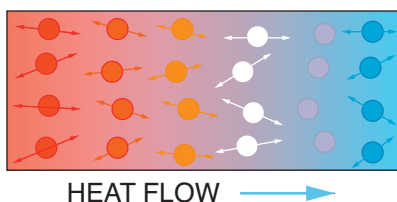

Figure 2.140 Conduction
- ▶ Conduction occurs through the cylinder and combustion chamber surfaces as heat passes to the coolant (Fig. 2.140).